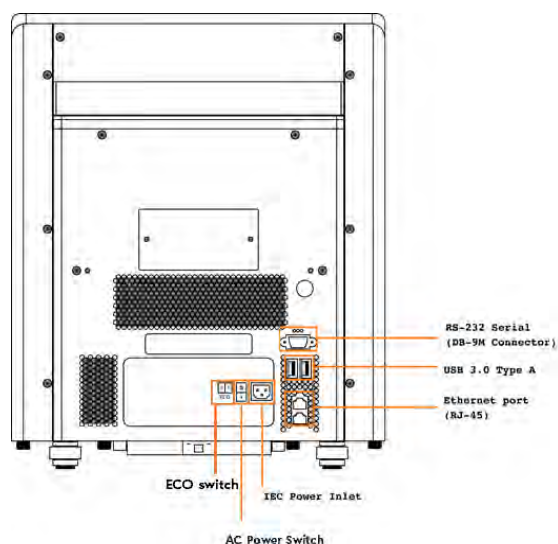

Figure 3.3: Buttons and IOs on the back of the Alto instrument.
2. The back of the instrument contains several ports and IOs to support instrument power and connection to accessories as shown in Figure 3.3. The Eco switch should be always set to the off position.